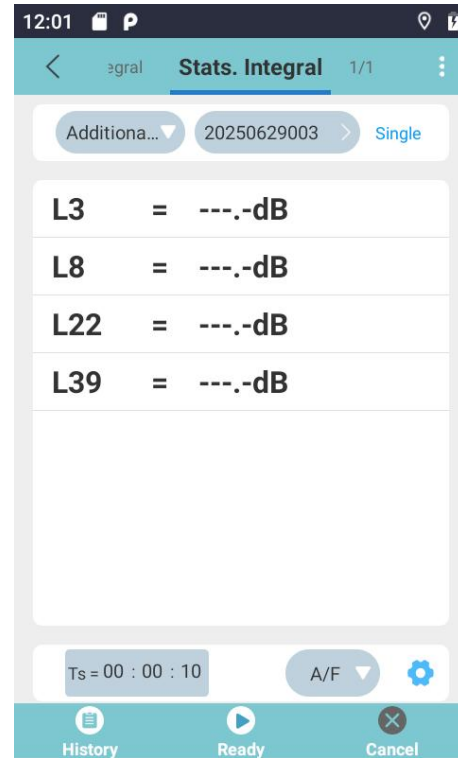

Figure 6.16
The Additional Indicators feature enables the calculation and display of other cumulative percentile sound levels (LN) beyond those shown in Figure 6.16.